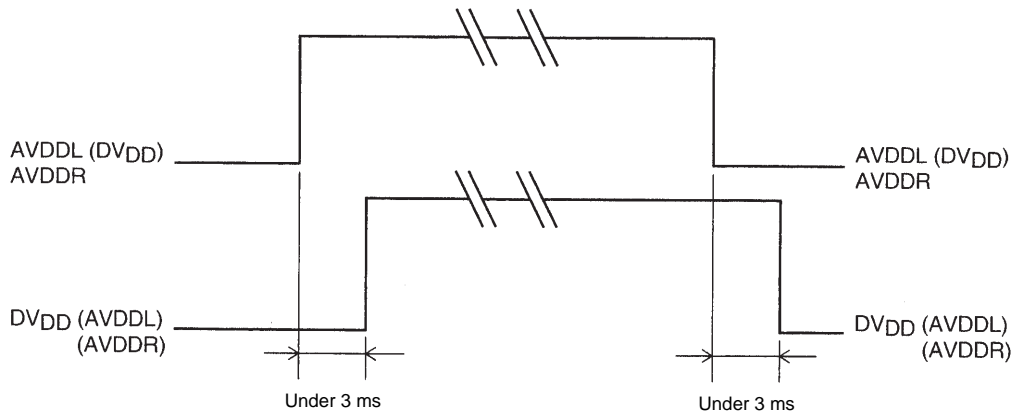

Figure 1
- (1) The power on (and power off) time lag must be under 3 ms as shown in figure 1.